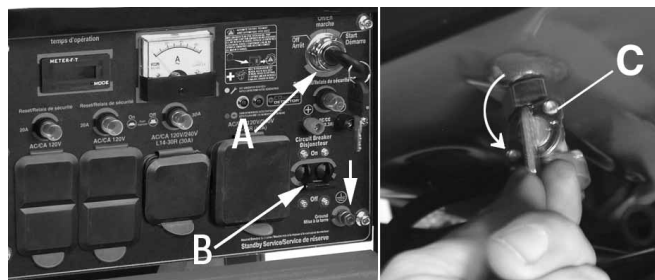

Figure 10
- 1) Turn breaker (B) Fig.10 "OFF" by lowering it.
- 2) Turn the key in the engine power switch (A) to the "OFF" position by turning the key counterclockwise.
- 3) Close the fuel shut-off valve (C) by bringing it downwards.